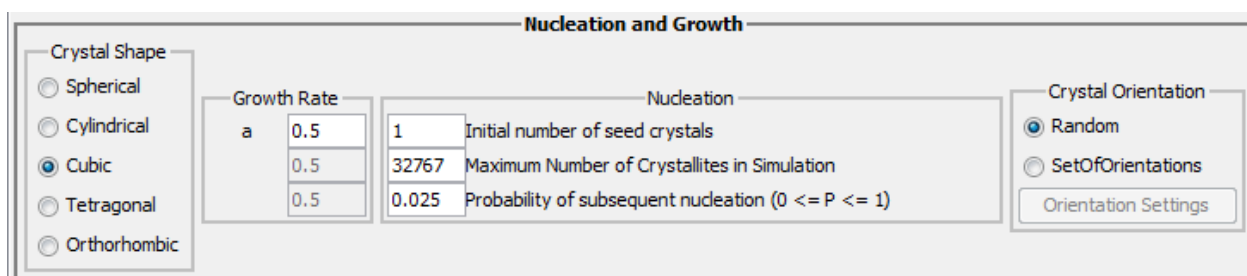

Figure 13. Nucleation and growth parameters grouped by color.
3.1. Nucleation and Growth Parameters -- Figure 13